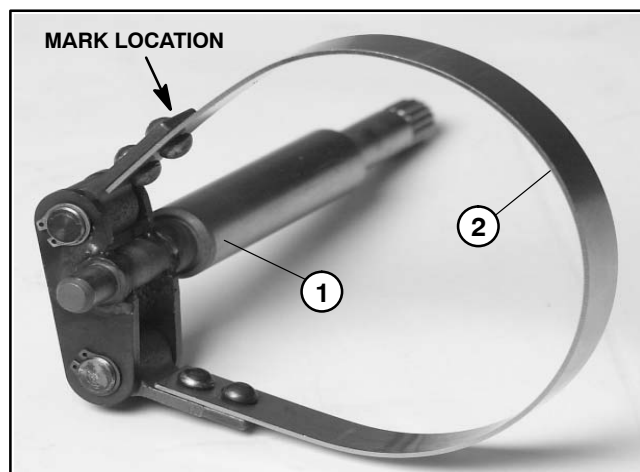

Figure 47
7. If traction band is replaced, the new band will have an ink mark on the upper end of the band (Fig. 47).